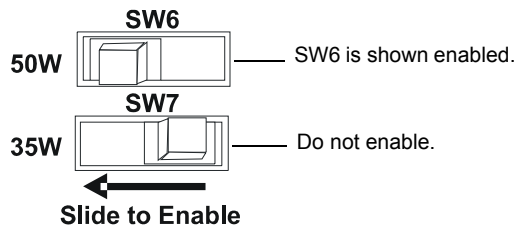

Figure 2.35 Enable Switches
5. Configure the slide switches, SW6 and SW7, per Figure 2.35. Do *not* use any other setting.
Note that the board is installed upside-down. Pay close attention when setting switches. Figure 2.35 shows the amplifier in its installed position, not the actual silk-screening on the board.